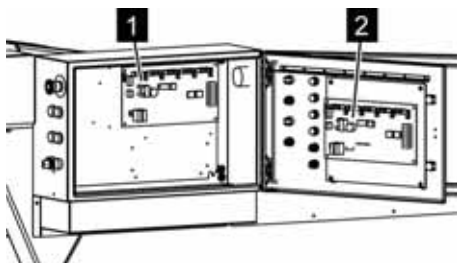

Fig. 151: Fuzzy control card
3. ➤ The fuses are on the fuzzy control card (Fig. 151/1 and 2). Replace defective fuse with a new fuse of equal amperage ( ↗ Chapter 8.6 'Fuses' on page 168).